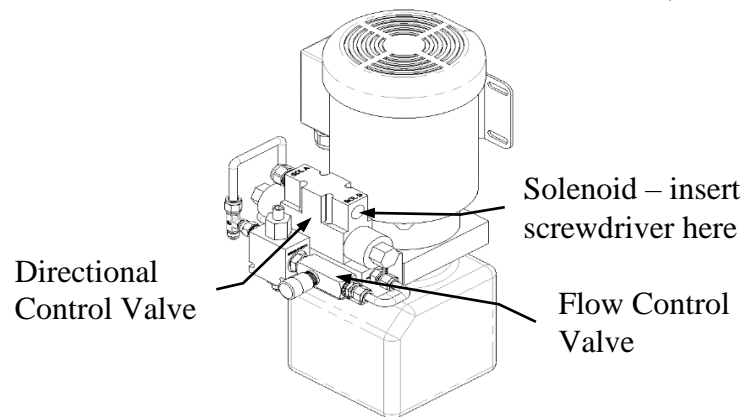

Figure 7- Directional Control Valve & Solenoid 773Hx Series (6130 HPU)
- 3.5.5. Locate the directional control valve on the pump. Insert a flat bladed screwdriver into the RIGHT side solenoid of the valve body and depress the solenoid. See *Figure 7- Directional Control Valve & Solenoid 773Hx Series (6130 HPU)*.